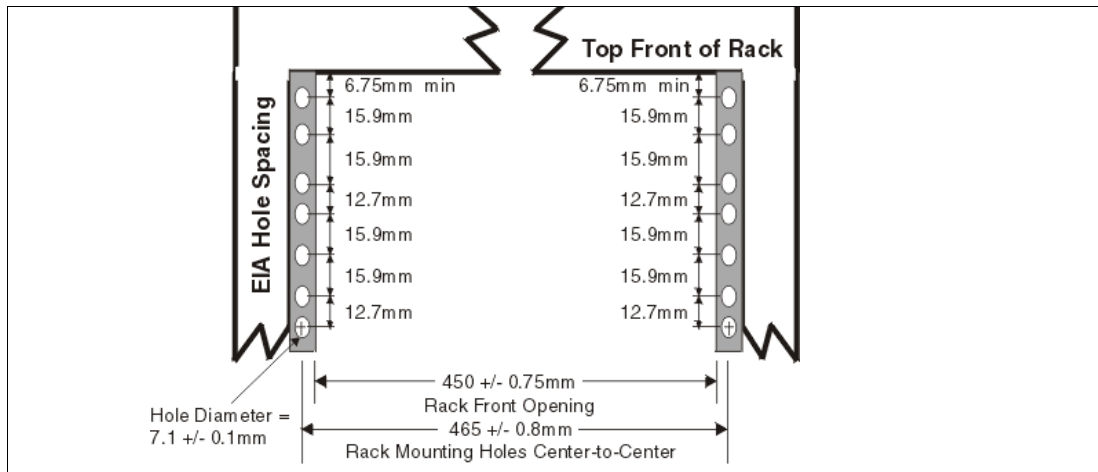
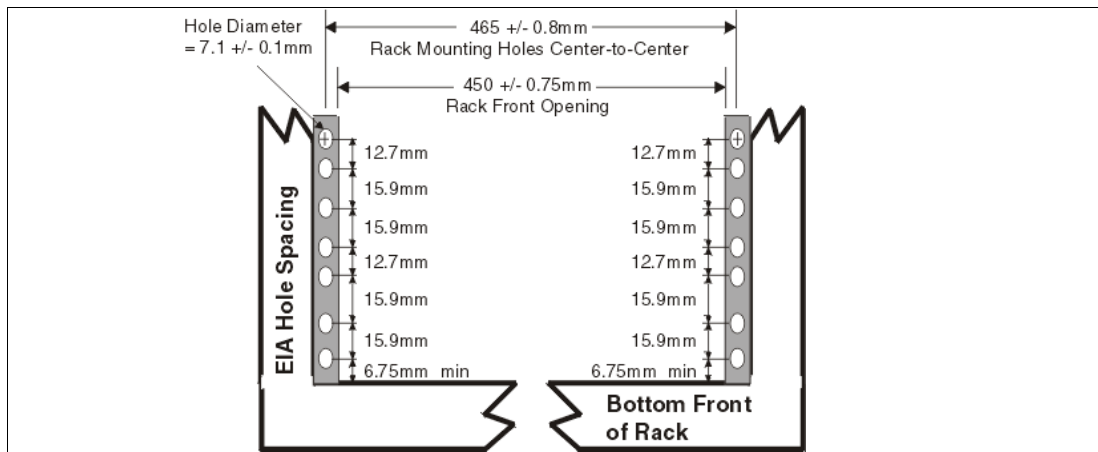

Figure 1-6 Rack specification dimensions, top front view
Figure 1-7 Rack specification dimensions, bottom front view
44.45 mm (1.75 inches) apart on center. Rail-mounting holes must be $7.1 \text{ mm} + 0.1 \text{ mm}$ ($0.28 \text{ inches} + 0.004 \text{ inches}$) in diameter. See Figure 1-6 and Figure 1-7 on page 21 for the top and bottom front specification dimensions.